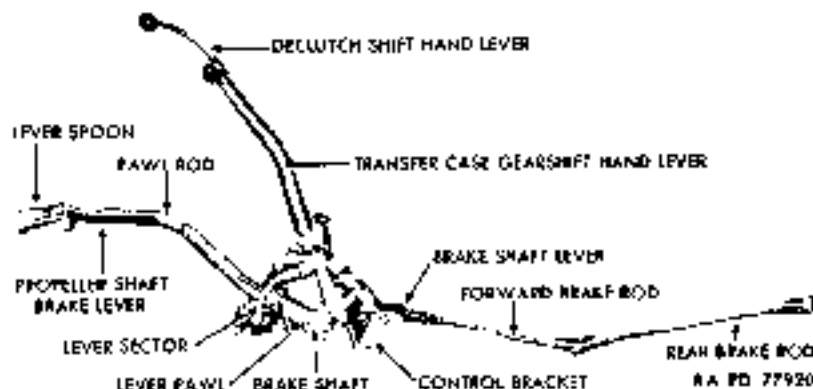

Figure 79 - Propeller Shaft Brake Lever and Linkage
a. **Description** (fig. 79). The lever is located in cab beside operator's seat. It consists of a solid bar which pivots on a shaft beneath the floor board, and is held in position by a lever spoon, pawl rod, and lever pawl which engages with a lever sector.
b. **Removal** (fig. 79). Loosen cap screw which clamps brake lever to brake shaft. Remove the two cap screws and lock washers which secure lever sector to control bracket. Remove lever, pawl rod, and lever sector as a unit, and remove Woodruff key from shaft.
c. **Installation** (fig. 79). Insert Woodruff key in brake shaft, and position brake lever on brake shaft and lever sector to control bracket. Install two cap screws and lock washers which secure lever sector to bracket, and tighten cap screw which secures lever to brake shaft.
a. **Description** (fig. 79). The linkage consists of two brake rods, one located between brake shaft lever and brake transfer lever and one between brake transfer lever and disk brake cross shaft brake lever. Action of the brake lever is transmitted through the brake rods to brake shoes. **CAUTION:** Although linkage is adjustable, it must not be used as a method for adjusting brake.
b. **Removal** (fig. 79). Remove the cotter pin and clevis pin from each end of both rods, and remove rods. Loosen cap screws which secure transfer lever, the four clevis levers, and the shaft lever, and remove levers.
c. **Installation** (fig. 79). Position levers on respective shafts, and tighten cap screws which secures each. Position rods between brake shaft, brake transfer shaft, and brake cross shaft. install clevis pin and cotter pin at both ends of each.